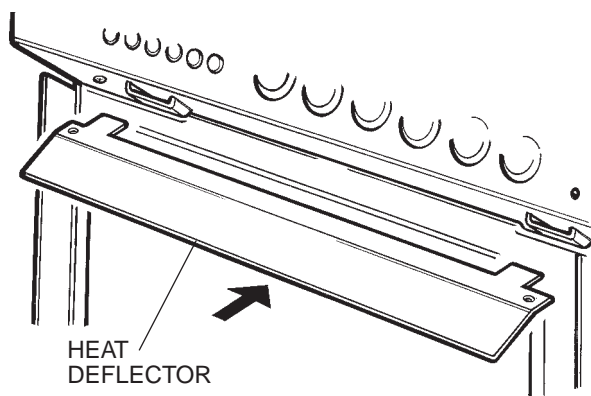

Figure 9 - Heat Deflector
**When grilling with the door open, fit the heat deflector (Figure 9). It may get hot in use.**